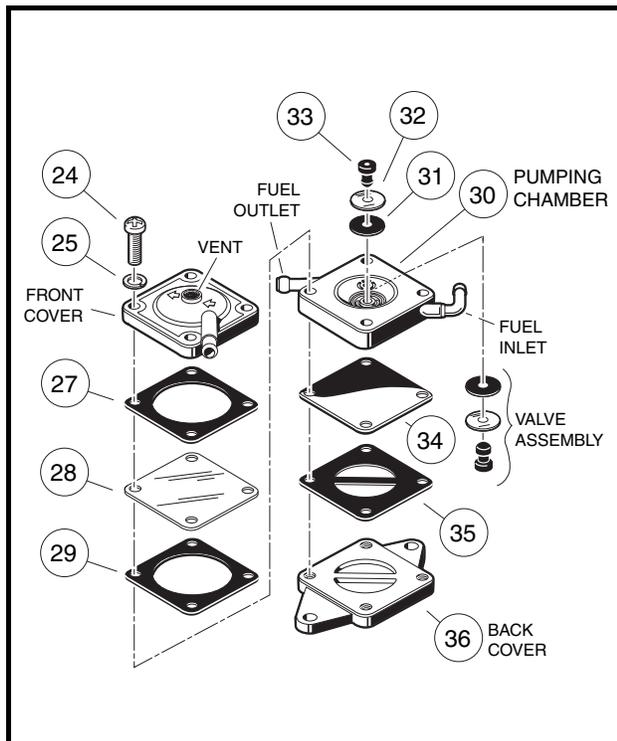
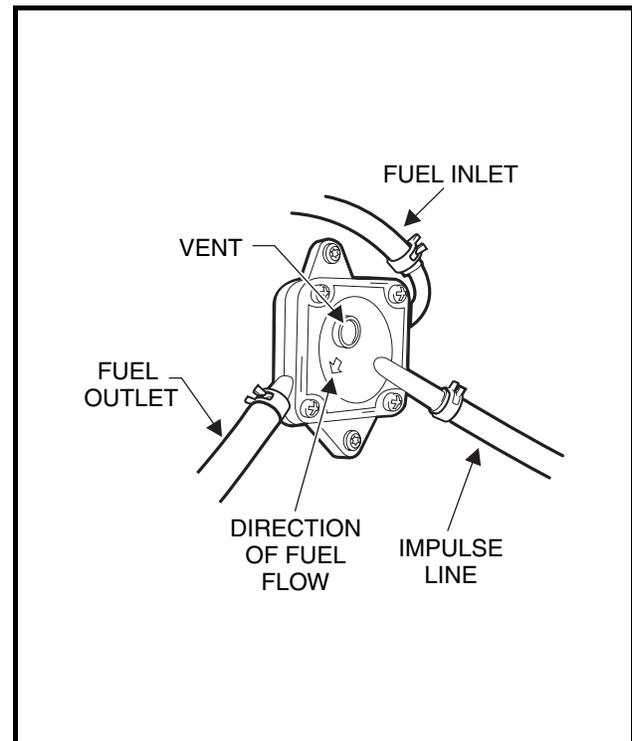

Figure 14-9 Fuel Pump
Figure 14-10 Fuel Pump Orientation
1. Remove four screws (24) and lock washers (25) from front of the fuel pump (**Figure 14-9, Page 14-16**).
- Note the orientations of the impulse gasket (27), the diaphragm (28), and the gasket (29), then remove them from the pump. **See following CAUTION.**
- If the impulse gasket (27) and the diaphragm (28) come off with the front cover, note their orientations and remove them (**Figure 14-9, Page 14-16**).
- Remove the pumping chamber (30).
- Remove the back cover (36), the fuel diaphragm (34), and gasket (35) (**Figure 14-9, Page 14-16**).
- Inspect the valve assemblies (31, 32, and 33) and all gaskets and diaphragms for damage (**Figure 14-9, Page 14-16**).
- If a valve assembly is damaged, the rubber retaining plug (33) and valve assembly must be replaced.
1. Install the fuel gasket (35) and diaphragm (34) on the back cover (36) (**Figure 14-9, Page 14-16**).
2. Install the valve assembly in the pumping chamber (30). **See following CAUTION.**
- **If the valve assembly is not installed exactly as shown (Figure 14-9, Page 14-16), the impulse fuel pump will not operate properly.**
3. Install the pumping chamber (30) on top of the fuel diaphragm (34). Be sure the fuel inlet and the fuel outlet align with the arrows on the front of the front cover (**Figure 14-9, Page 14-16**).
4. Install the gasket (29), clear impulse diaphragm (28), and the paper impulse gasket (27) to the pumping chamber (30).
5. Install the front cover and then the lock washers (25) and four screws (24) on the assembly. Be sure the arrows on the front cover point from the fuel inlet to the fuel outlet (**Figure 14-10, Page 14-16**). Tighten the screws to 26 in-lb (3.0 N·m).
**NOTE:** Be sure to connect the fuel line (10), that comes from the fuel filter (7), to the inlet nipple on the pump. Direction of fuel flow is indicated by the arrows on the fuel pump (**Figure 14-8, Page 14-13**). **See also Figure 14-10, Page 14-16.**